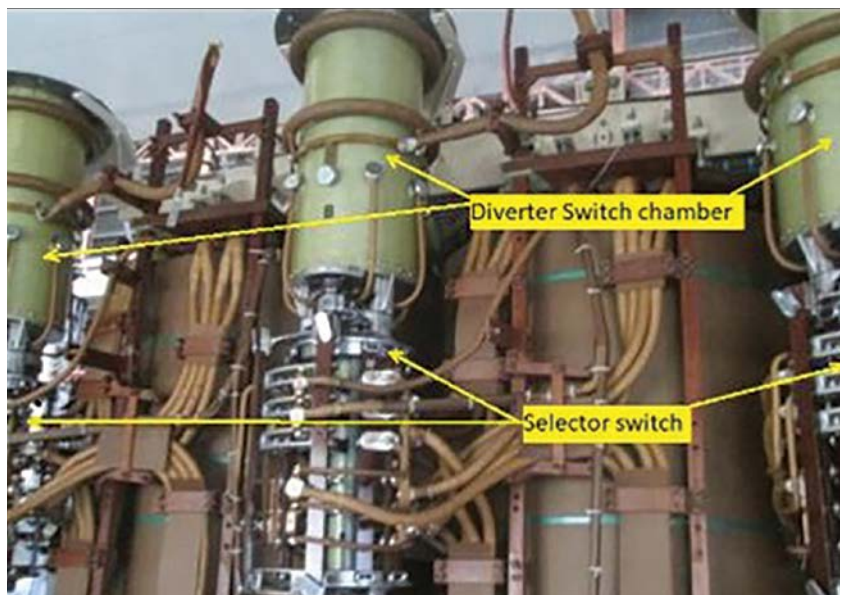

Figure 15C: In-tank type OLTC
**Note:** All EHV transformers are equipped with in-tank type OLTC (Figure 15C).